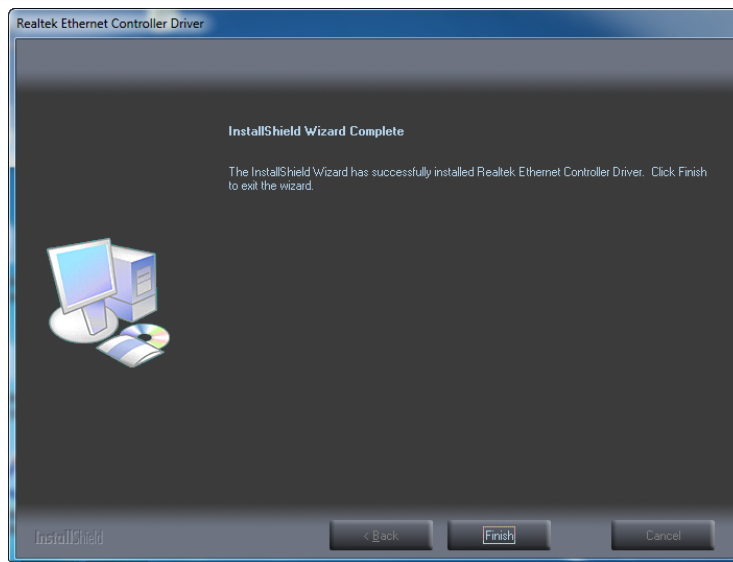

Figure 5-29: LAN Driver Installation Complete
Step 10: When the driver installation is complete, the screen in **Figure 5-29** appears.